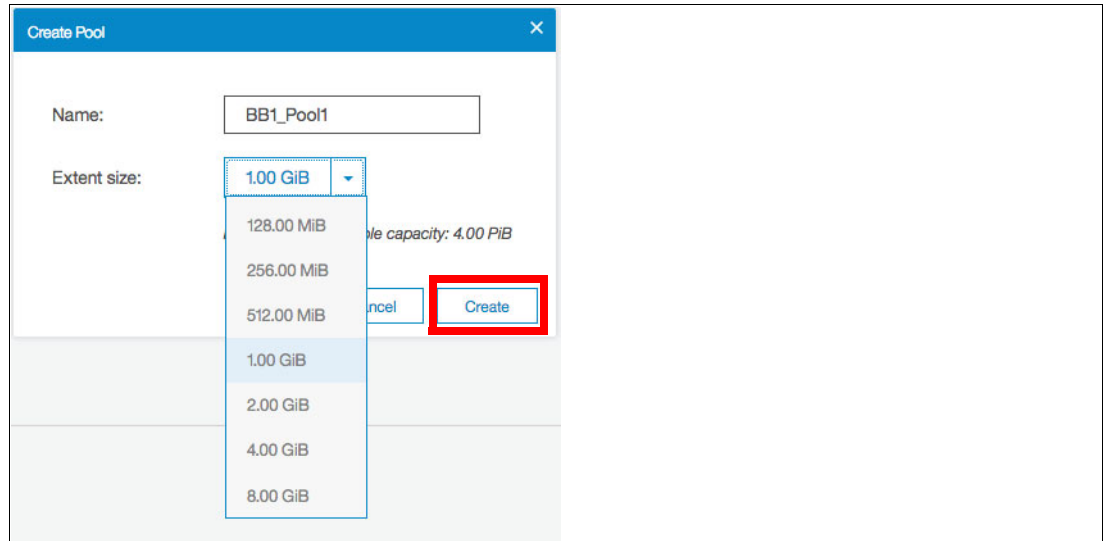

Figure 4-49 Create a Pool to manage the AE3 storage
3. Provide a meaningful name for the pool. In this case, we used BB1_Pool1 to represent building block 1 pool 1. The extent size defaults to 1 GB and leave this default. For more information about extents see *Implementing the IBM System Storage SAN Volume Controller with IBM Spectrum Virtualize V8.1*, SG24-7933. In Figure 4-49 the pool is created.